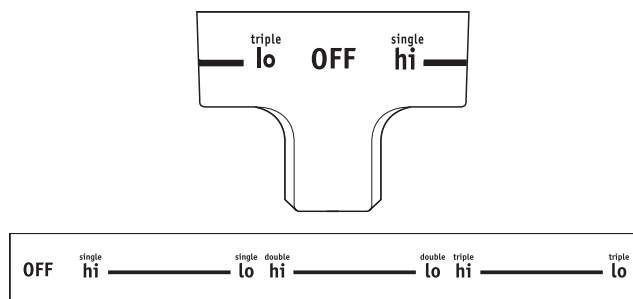

Figure 7: Triple element control
2. Push in and turn the control knob to the element size that best fits the cookware. (See Figure 7).